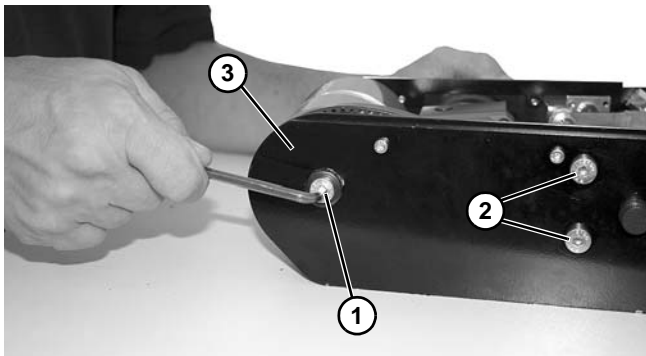

Figure 148
7. Remove socket head screw (**Figure 148, item 1**) and washer from both sides of the conveyor.
8. Remove socket head screws (**Figure 148, item 2**) on timing belt side. Remove plate (**Figure 148, item 3**).